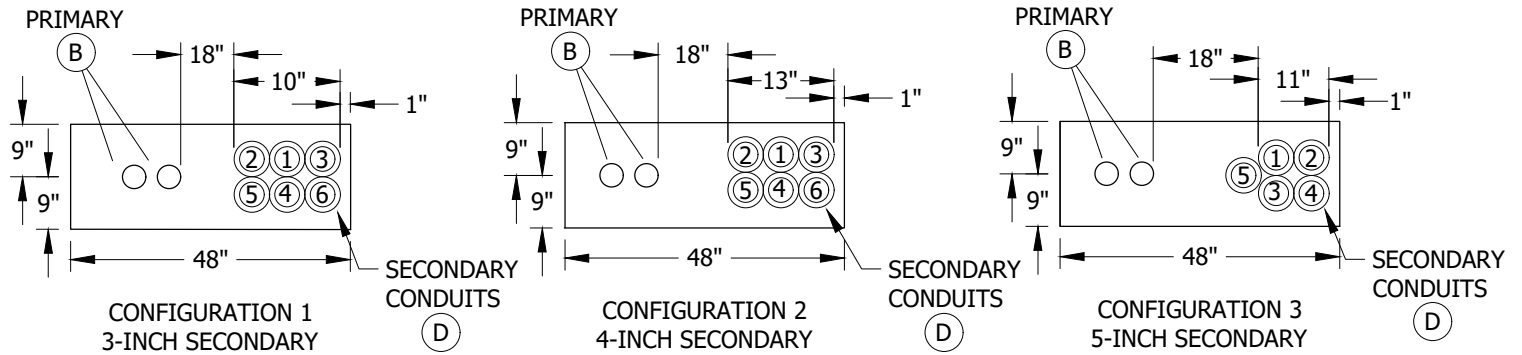

FIGURE 2
- (A) 1-INCH EARTH IN THE BOTTOM OF THE TRENCH IS REQUIRED TO PREVENT DAMAGE FROM ROCKS, SAGS, AND POCKETS.
- (B) PLACE ALL PRIMARY AND SECONDARY CONDUITS WITHIN THE PAD OPENING AS SHOWN IN FIGURES 2 & 3. TERMINATE PRIMARY AND SECONDARY CONDUITS FLUSH WITH THE TOP OF THE PAD. DO NOT CUT INTO THE CURVED PORTION OF THE ELBOWS. RADIUS OF CURVATURE IS 36-INCH MINIMUM FOR 3-INCH, 4-INCH AND 5-INCH CONDUITS.
- (C) THE CONDUIT CONFIGURATION REQUIREMENT BETWEEN TERMINATING POINTS LIMITS THE SECONDARY CONDUIT CONFIGURATION TO 2 WIDE X 3 DEEP OR 3 WIDE X 2 DEEP (NO ONE CONDUIT IS TO BE COMPLETELY SURROUNDED ON ALL FOUR SIDES BY OTHER CONDUITS), USING SPACERS AND 1 SACK CONCRETE SLURRY BACKFILL. CONDUITS MAY ALSO BE INSTALLED SIDE BY SIDE ON THE BOTTOM OF THE TRENCH WITHOUT SPACERS OR CONCRETE SLURRY (FOUR CONDUITS MAX.). IN THE TRANSITION AREA WHERE THE CONDUITS FROM THE BOTTOM OF THE TRENCH START TOWARD THE SURFACE (THE STRAIGHT PORTION BY THE 90° BEND), SPACERS MAY BE REQUIRED TO ALLOW THE 90° BENDS TO ENTER STRAIGHT INTO THE PAD OPENING. AT THE SURFACE POINT, THE CONDUITS MAY BE BUNDLED TOGETHER. USE SDG&E APPROVED BASE, SHADING AND BACKFILL.
- (D) ANY COMBINATION OF 3, 4 OR 5-INCH SECONDARY CONDUITS MAY BE USED, PROVIDED THEY DO NOT EXCEED THE TOTAL OF 6 OR THE MAXIMUM OF EACH SIZE CONDUIT AS SPECIFIED IN FIGURE 2. AN EXCEPTION WOULD BE WHEN THE TRANSFORMER FEEDS ONE CUSTOMER WITH A 2000A MAIN WHICH REQUIRES FIVE 5-INCH CONDUITS. NO FUTURE CUSTOMERS ARE ALLOWED IN THIS INSTALLATION. TWO EXTRA 1-INCH OR TWO EXTRA 2-INCH CONDUITS MAY BE ADDED TO SERVE STREET LIGHTS, RECREATION BUILDINGS, ETC.
- (E) WHEN NUMBER OF REQUIRED CONDUITS IS LESS THAN THE TOTAL ALLOWABLE SHOWN IN FIGURE 2, INSTALL IN NUMBERED SEQUENCE AS SHOWN.
- (G) MAXIMUM NUMBER OF CONDUITS ALLOWED FOR 200A APPLICATION IS TWO 4-INCH PRIMARY CONDUITS. NO COMBINATION OF DIFFERENT SIZE PRIMARY CONDUITS ALLOWED. NO SECONDARY CONDUITS ALLOWED.
- (H) MAXIMUM NUMBER OF CONDUITS ALLOWED FOR 600A APPLICATION IS TWO 5-INCH PRIMARY CONDUITS. NO COMBINATION OF DIFFERENT SIZE PRIMARY CONDUITS ALLOWED. NO SECONDARY CONDUITS ALLOWED.